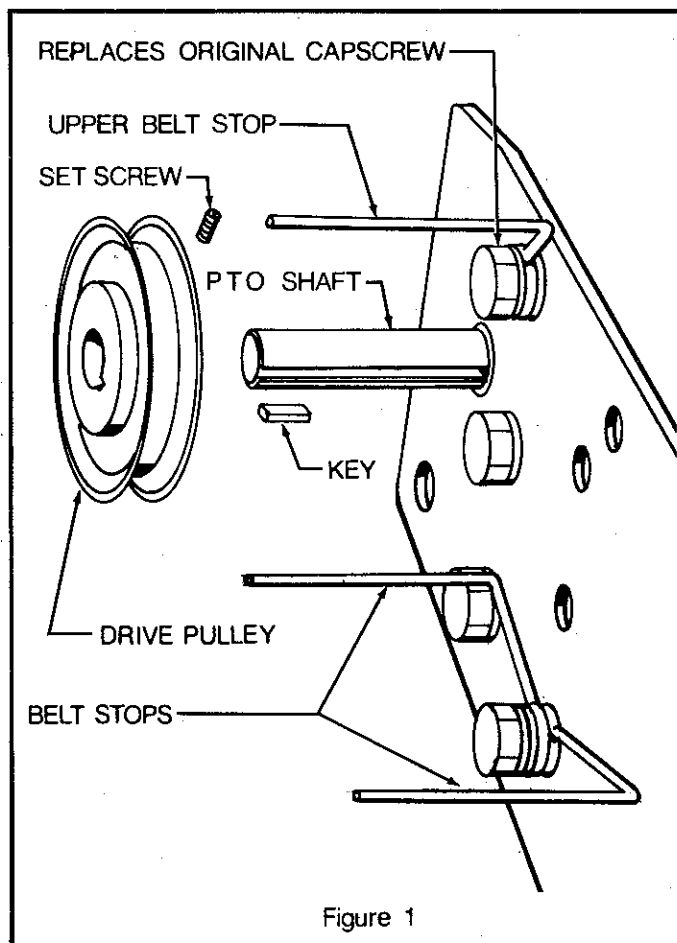

Figure 1
1. Install the drive pulley on the tractor PTO shaft using a  $3/16 \times 3/16 \times 1$ " key. Secure the pulley with the set screw provided. Install the three belt stops on the tractor frame. The  $7/16-14 \times 1-1/4$ " capscrew provided for the upper belt stop, replaces the original cap screw on the tractor (Figure 1).